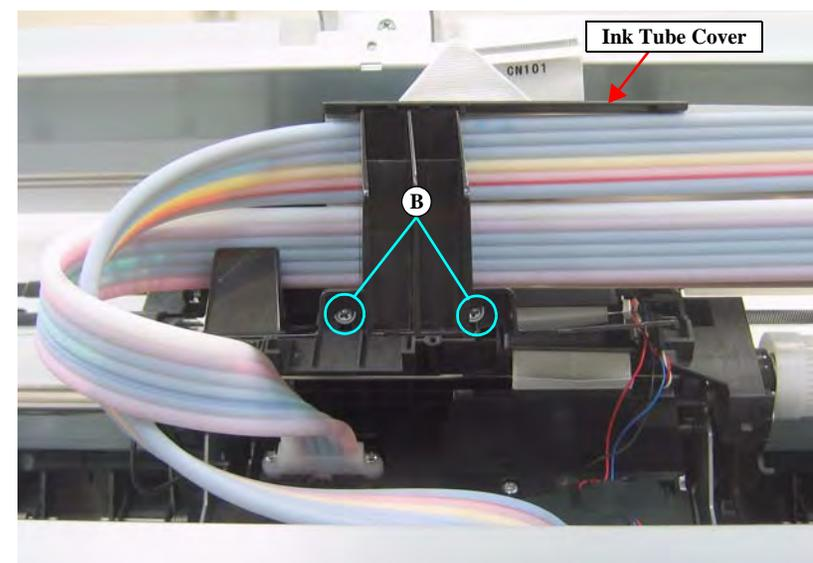

Figure 4-157. Removing the Ink Tube Cover
17. Remove the two screws that secure the Ink Tube Cover, and remove the Ink Tube Cover. *See Figure 4-157.*